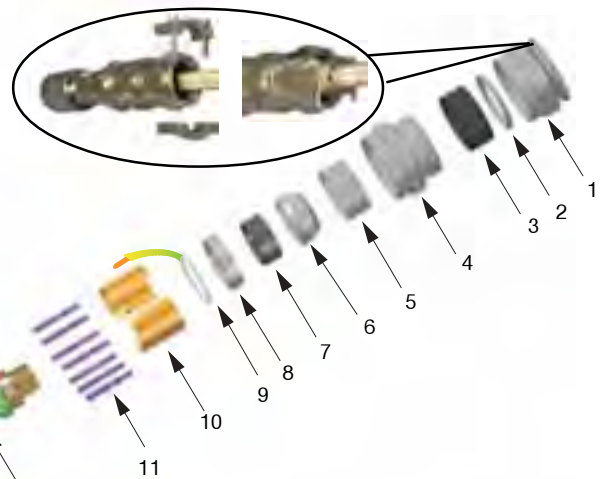

Fig. 15-1 Coupler for armour cable
15.2 Coupler open (Fig. 15-1)
1. The contact socket, item 7, is larger in diameter. To avoid mistakes, put this into the holder first.
Fit the remaining plug pins loosely in the respective holders. Now push all the plug pins (11) into the hexagonal keyways of the plug insert (12) until they engage in position (Fig. 15-1).